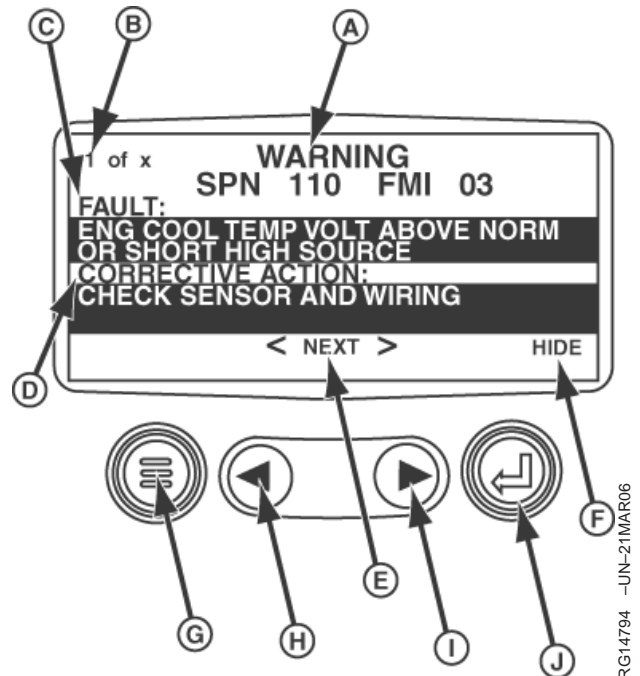

Figure 3. Fault Code Display Screen
- b. If there are stored fault codes, fault code screen is displayed. For an example, refer to figure 3.
5. When the word "NEXT" (E) appears above the arrow keys (H) and (I), there are more, stored trouble codes that can be viewed by using the arrow keys. To view the next trouble code, press the right arrow key (I). To view the previous trouble code, press the left arrow key (H). As the trouble code being viewed is changed, the "1 of x" (B) shows the number of the trouble code being displayed, out of a total number of active trouble codes. (For example, "3 of 5" means viewing the third trouble code of a total number of five, active trouble codes.) As the arrow keys are used to display next, or previous, trouble codes, the left-hand number changes to the number of the trouble code to which the scroll was advanced or returned.
6. Press the menu key (G) to return to the main menu.